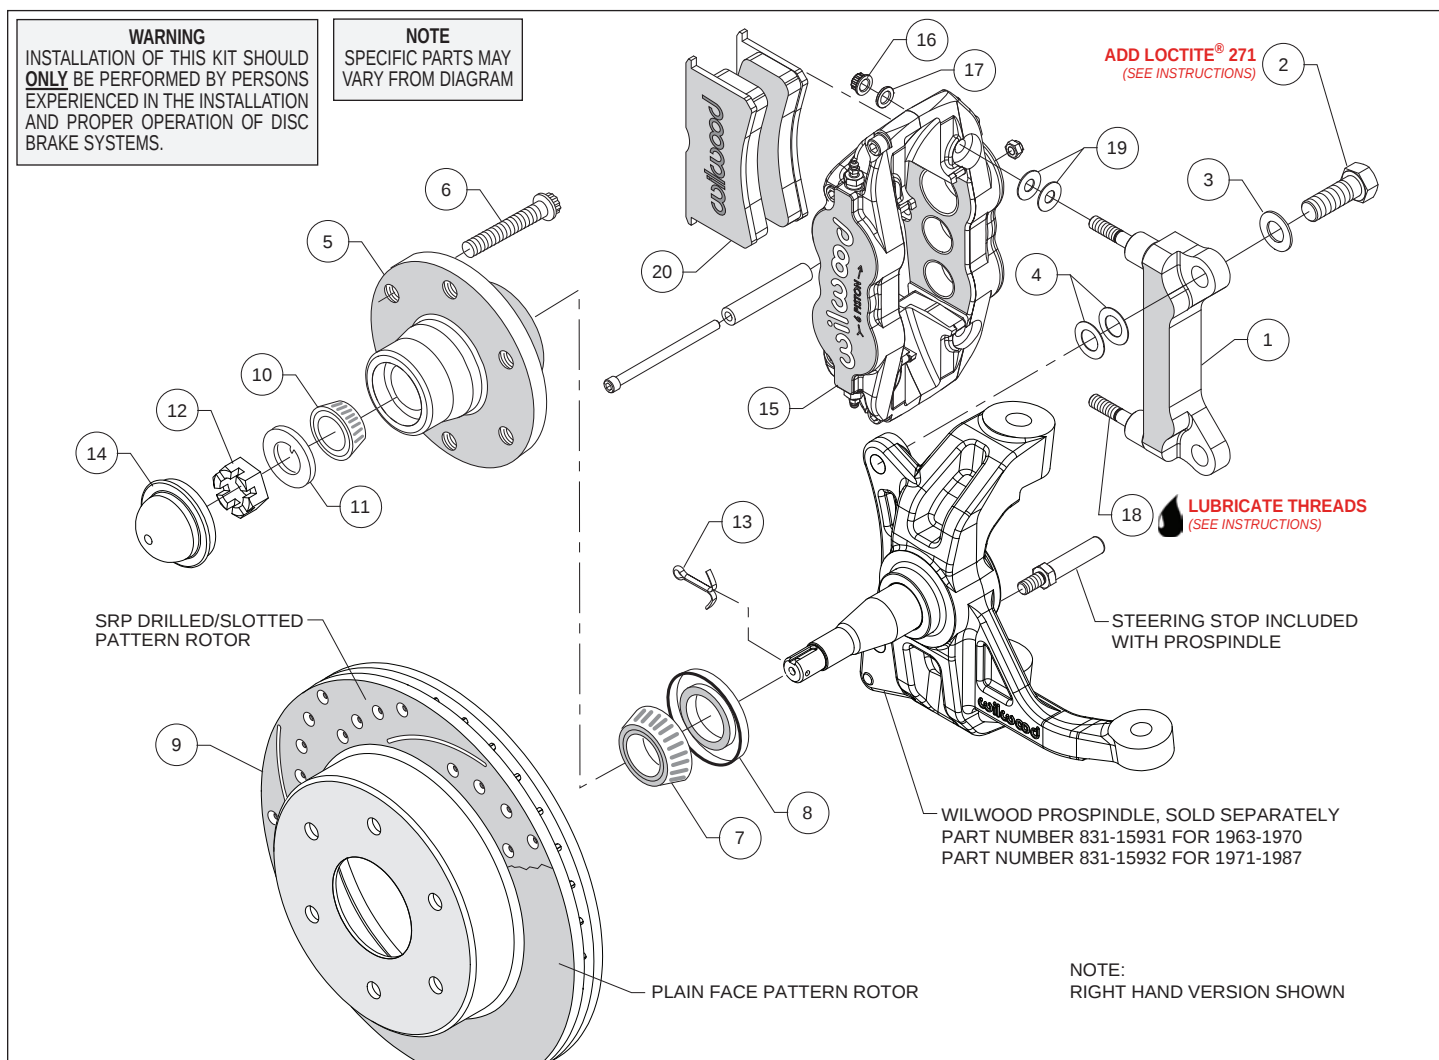

Figure 1. Typical Installation Configuration
Assembly Instructions (numbers in parenthesis refer to the parts list and Figure 1 on the preceding pages):
- Install the steering stop bolt (included with the ProSpindle) into the spindle as shown in Figure 1 and Photo 1. Torque to 25 ft-lbs.
- The caliper mount bracket (1) should initially be installed with clean, dry threads on the mounting bolts. Orient the bracket, as shown in Figure 1 and Photo 2, and install using bolts (2) and washers (3). Initially place two .024" thick shim (4) on each bolt between the bracket and spindle, Figure 1. Temporarily tighten the mounting bolts. **NOTE:** The bracket must fit squarely against the mount bosses on the spindle. Inspect for interference from casting irregularities, machining ridges, burrs, etc. Later, after the caliper alignment has been checked, the mount bolts will be secured using red *Loctite*® 271.
- Install wheel studs (6) into the hub (5), Photo 3. Torque to 77 ft-lb.
- **NOTE:** This kit contains distinct right and left hand calipers that must be mounted in a specific direction, as described below. Lubricate the caliper mounting studs (18) with lightweight oil. Initially place two .035" thick shims (19) on each stud between the caliper and the bracket, as shown in Figure 1 and Photo 8. Mount the caliper (15) onto the bracket (1) using lock nuts (16) and washers (17), Figure 1. Temporarily tighten the lock nuts. Ensure that the caliper is mounted so that the largest pistons are at the rotor exit end of the caliper, in relation to the direction of rotor rotation. View the rotor through the top opening of the caliper. The rotor should be centered in the caliper, Photo 9. If not, adjust by adding or subtracting shims (4) between the bracket and the spindle. Always use the same amount of shims on each of the two mounting bolts. Once the caliper alignment is correct, remove the bracket mounting bolts one at a time, apply red *Loctite*® 271 to the threads, and torque to 140 ft-lb.